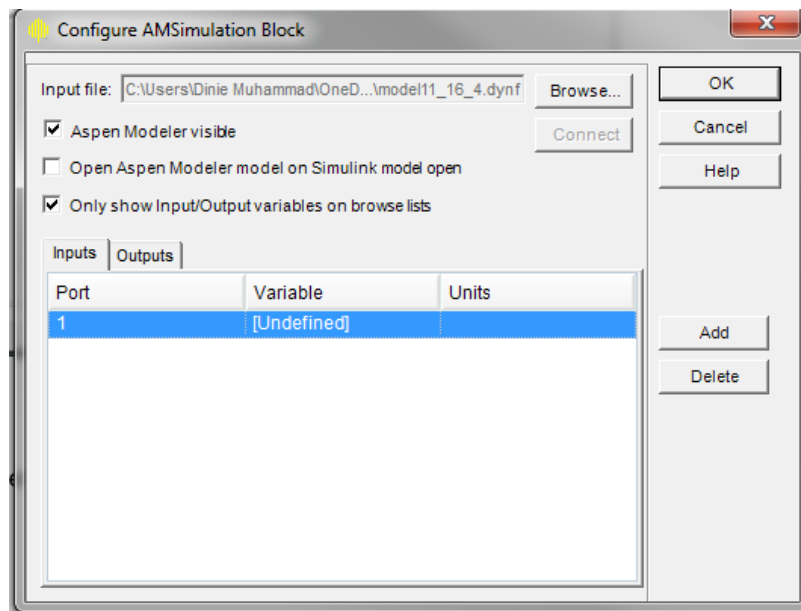

Figure 3
5. This action should opened up the Aspen Dynamics model and AMSimulation block menu (refer Figure 3). In the author's experience, untick the "Only show Input/Output variables on the browse lists". This will make all the available variables in the Aspen Dynamics model will appeared in the list.